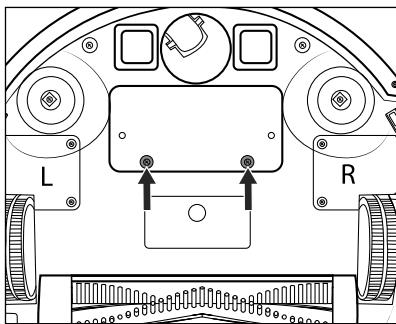

Fig. 16
- Loosen the two screws of the battery compartment cover 29 (see Fig. 16) on the underside of the appliance using a Phillips screwdriver, and remove it from the appliance. Remove the battery compartment cover 29 from the appliance.